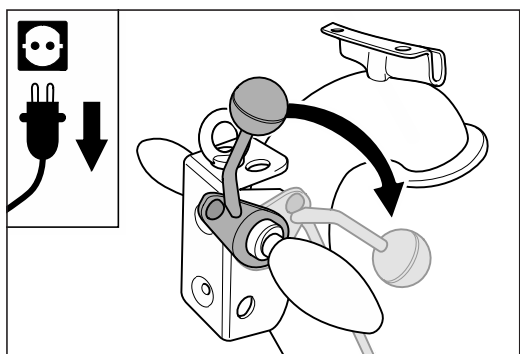

Fig. 33 Press the lowering lever at the handle downwards.
- 9 Press the lowering lever at the handle downwards (fig. 33) to lower the sanding drum onto the floor.
- 1 Press the lowering lever at the handle downwards (fig. 33).